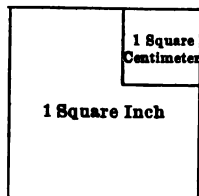

FIG. 3.—Relative sizes of the square inch and the square centimeter.
**9. Units of area.** The unit of area which is most extensively used is the area of a square of which the side is of unit length. Thus the area of a city house lot is reckoned in square feet, where the unit is a square one foot on each side. In the laboratory, area is often measured in square centimeters ( $\text{cm}^2$ ), the unit being a square one centimeter on each side. It is evident from figure 3 that one square inch is equal to about 6 square centimeters. More accurately, it is  $2.54 \times 2.54$ , or 6.45 square centimeters.